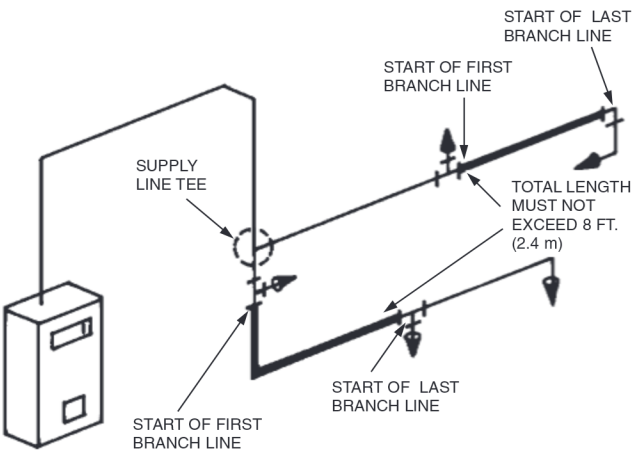

FIGURE 91
5. The pipe length between the start of the first branch line and the start of the last branch line must not exceed 8 ft. (2.4 m). When the supply line is split, the **combined length** of both legs of the supply line (start of first branch line to start of last branch line) must not exceed 8 ft. (2.4 m). See Figure 91.